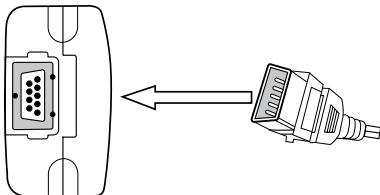

Fig. 3
3. Plug the SpO₂ extension cable in the multi-functioning connector on top of the oximeter, as shown in Fig. 3. Ensure that the sensor is firmly plugged in.